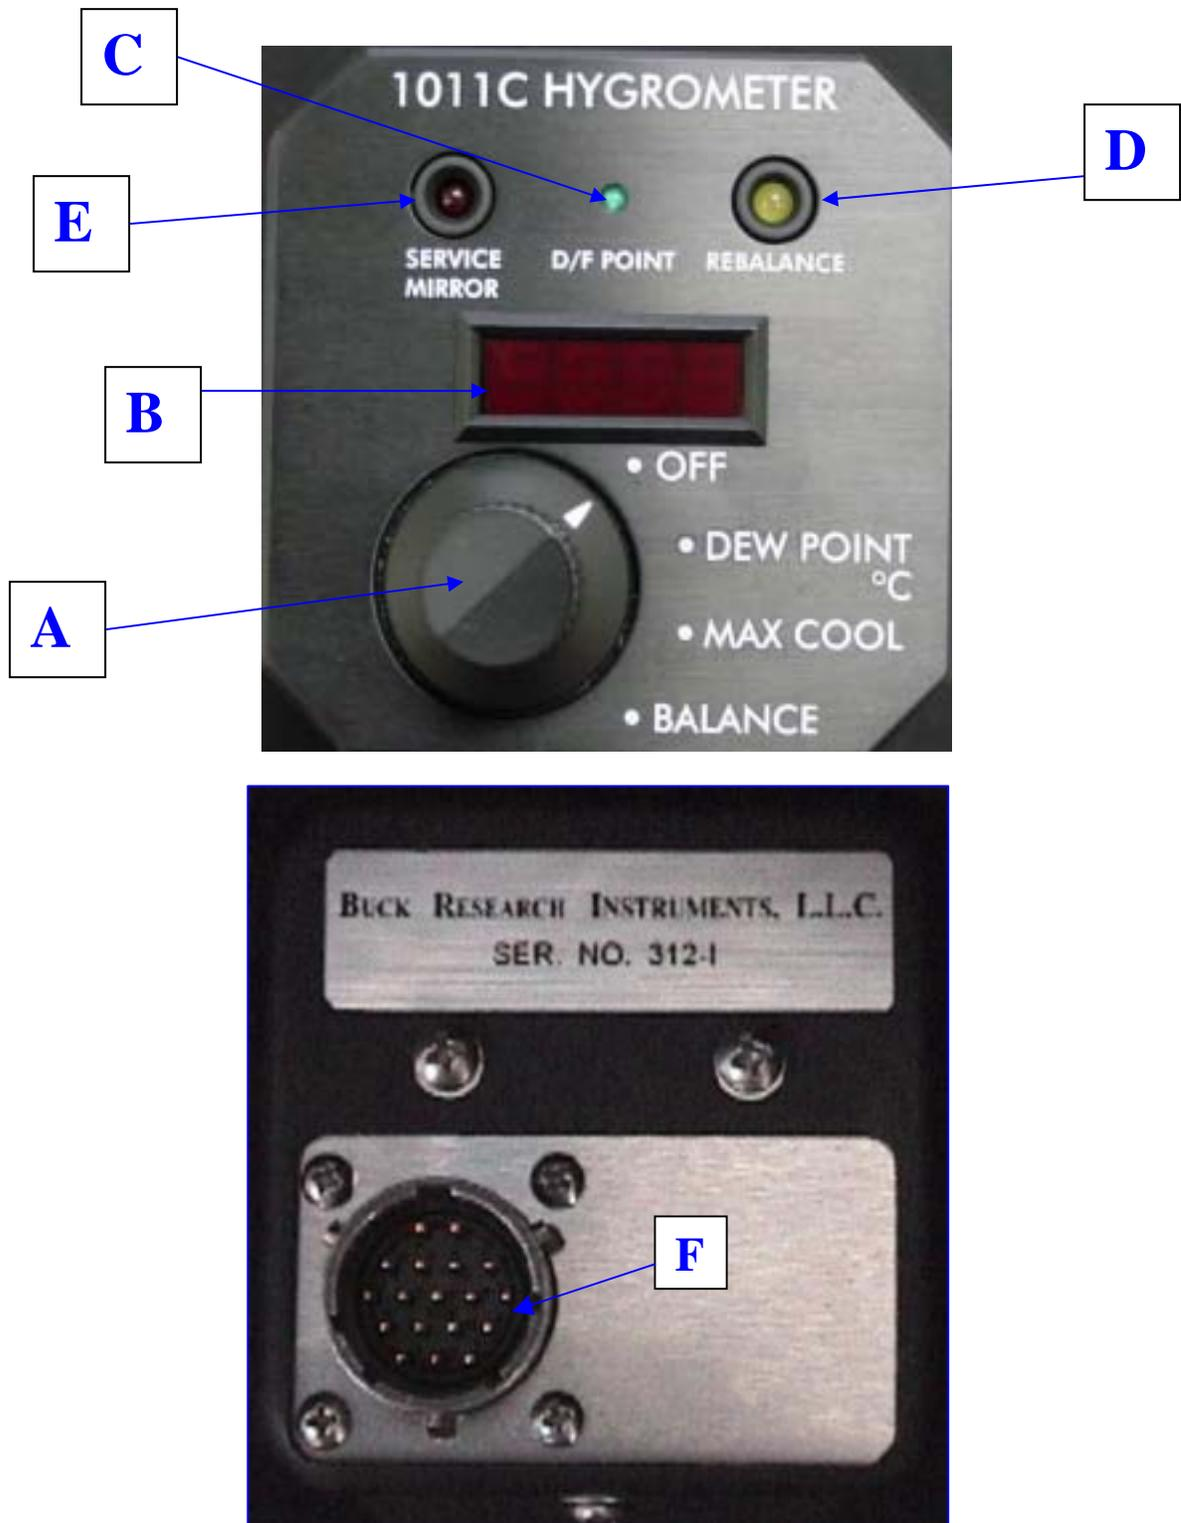

Figure 4. Control/Indicator Unit
2.2 CONTROL/INDICATOR UNIT (Figure 4)